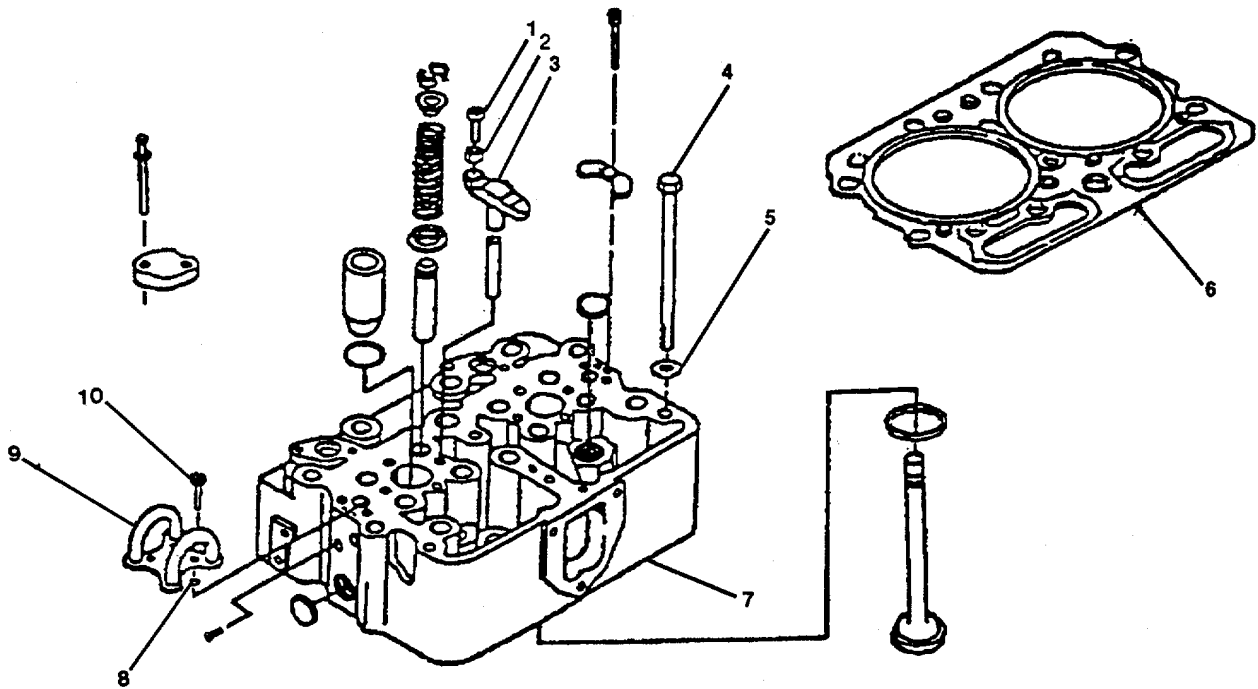

FIGURE 2-53. Cylinder Head Group.
- b. Remove valve crossheads (3, Figure 2-53) from the cylinder head (7) as follows:
- (1) Remove twelve valve crosshead plain hexagon nuts (2) and setscrews (1).
- (2) Remove all valve crossheads (3).
- c. Remove assembled washer screws (10), preformed packings (8), and fuel crossover connections (9). Discard packings (8).
- d. Remove twelve hexagon capscrews (4) and flat washers (5) from each cylinder head (7).
Repair of the cylinder head group is by replacement of the cylinder head (7, Figure 2-53) and cylinder head gasket (6).
- c. Install each cylinder head (3) over the guide studs (4) using T-handles.
- d. Remove the guide studs (4).
- e. Use clean engine oil to lubricate the cylinder head capscrews (4, Figure 2-53) and both sides of the flat washers (5).
- g. Install capscrews (4) and flat washers (5) in each cylinder head.
- k. Install the valve crossheads (3, Figure 2-53) as follows:
- (1) Lubricate with clean engine oil.
- (2) Install the crossheads (3) with the adjusting screw (1) toward the exhaust manifold side of the engine.
- (3) Loosen the adjusting screw lock nut (2). Loosen the adjusting screw one full turn.